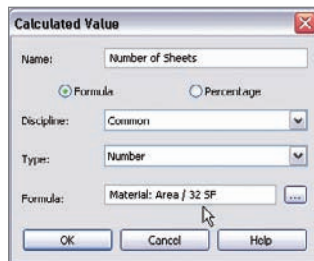

FIGURE 11.35 Changing the calculated values
6. Make sure Type is set to Number (see Figure 11.35).